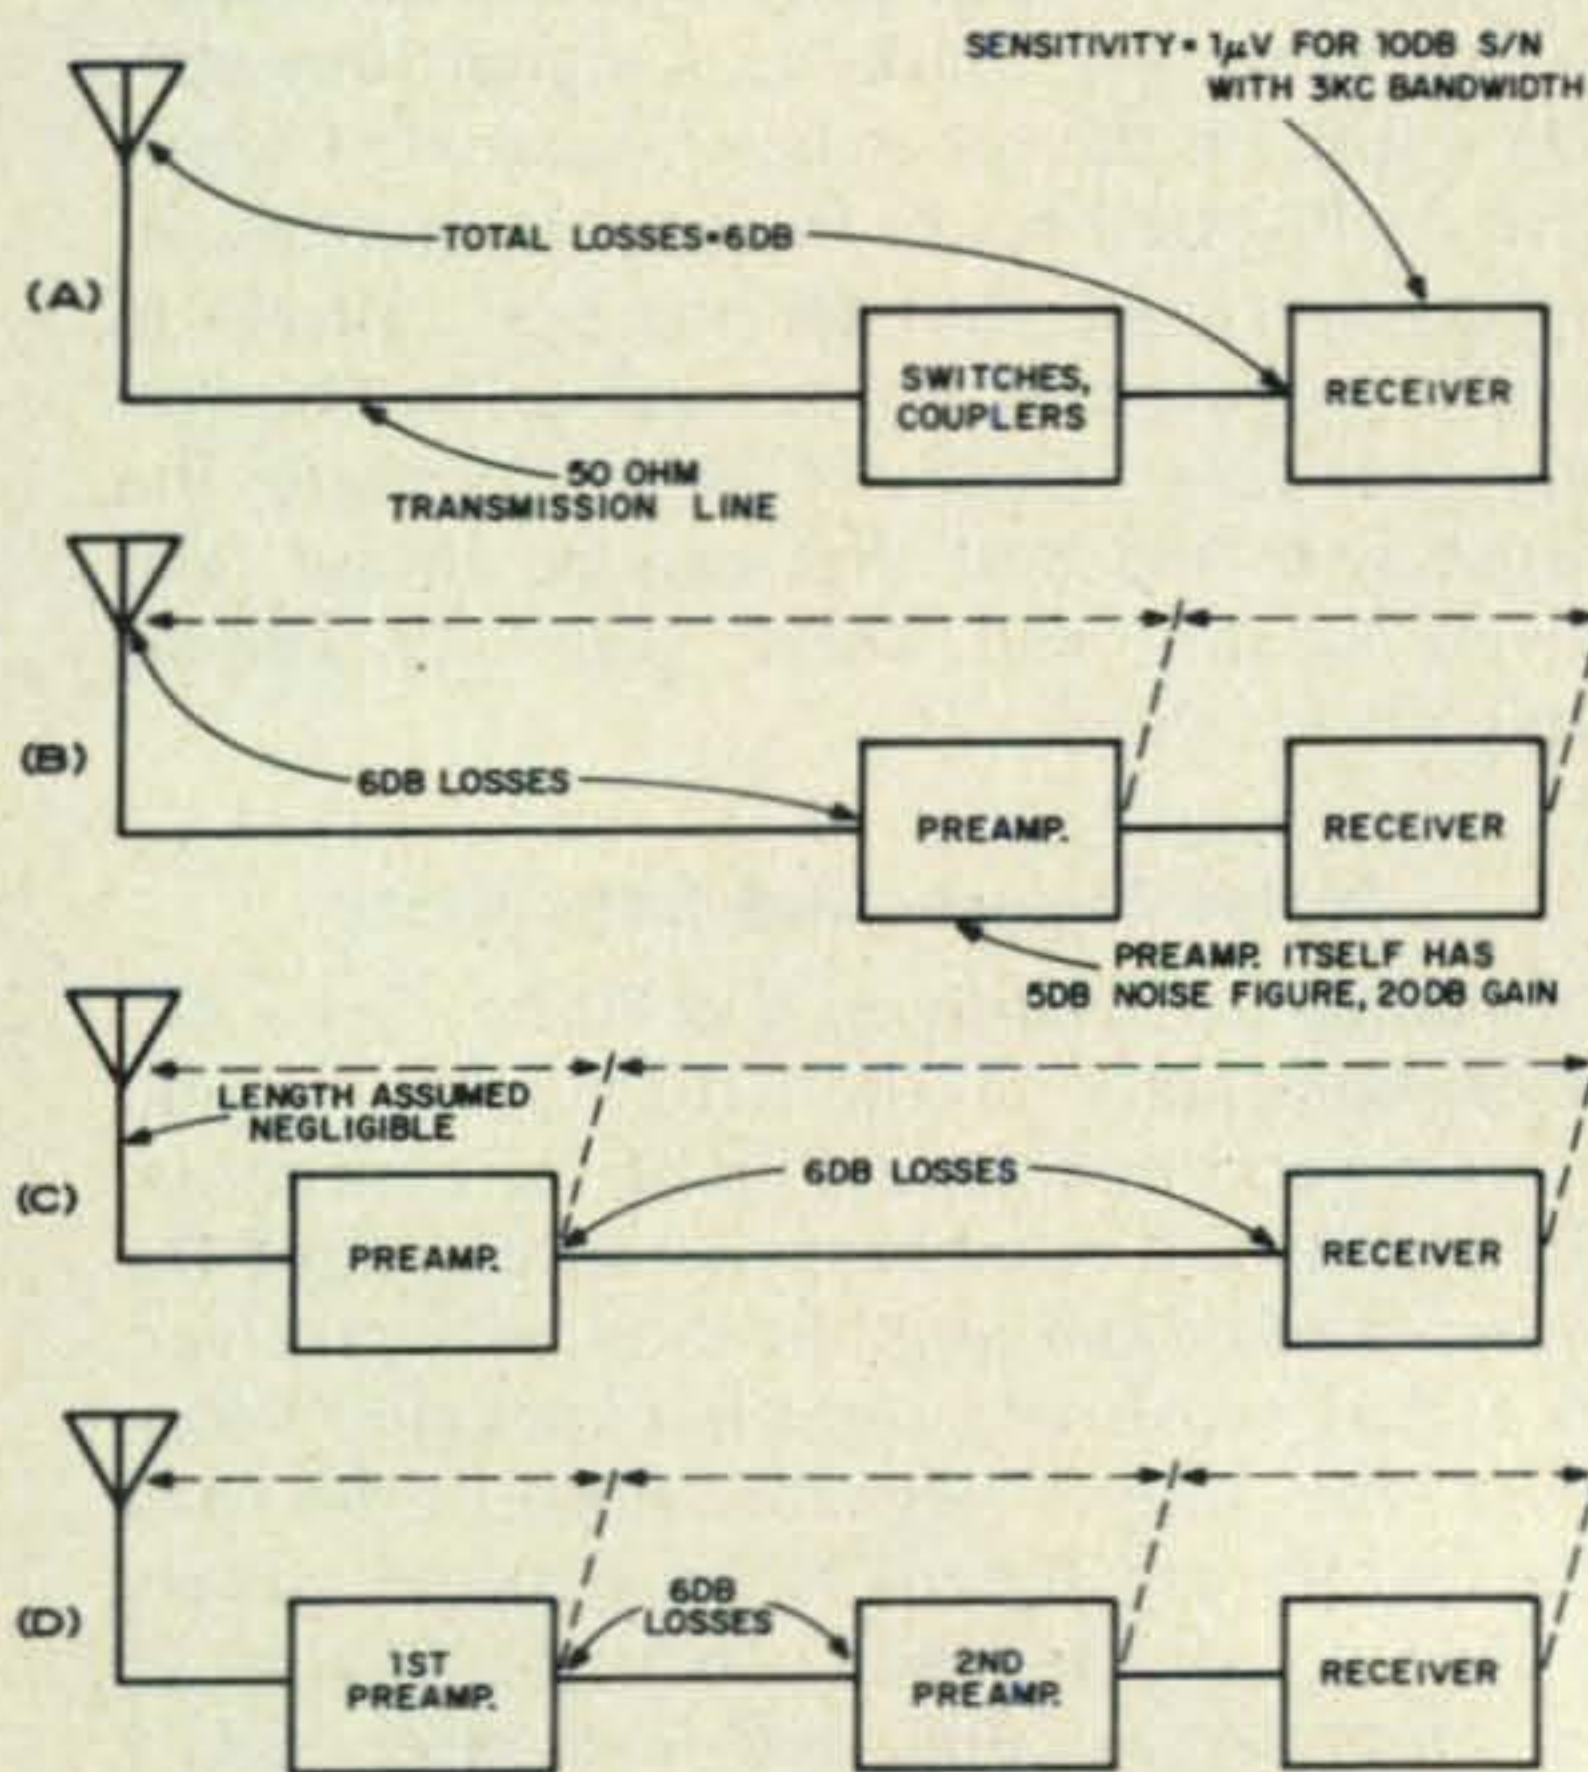
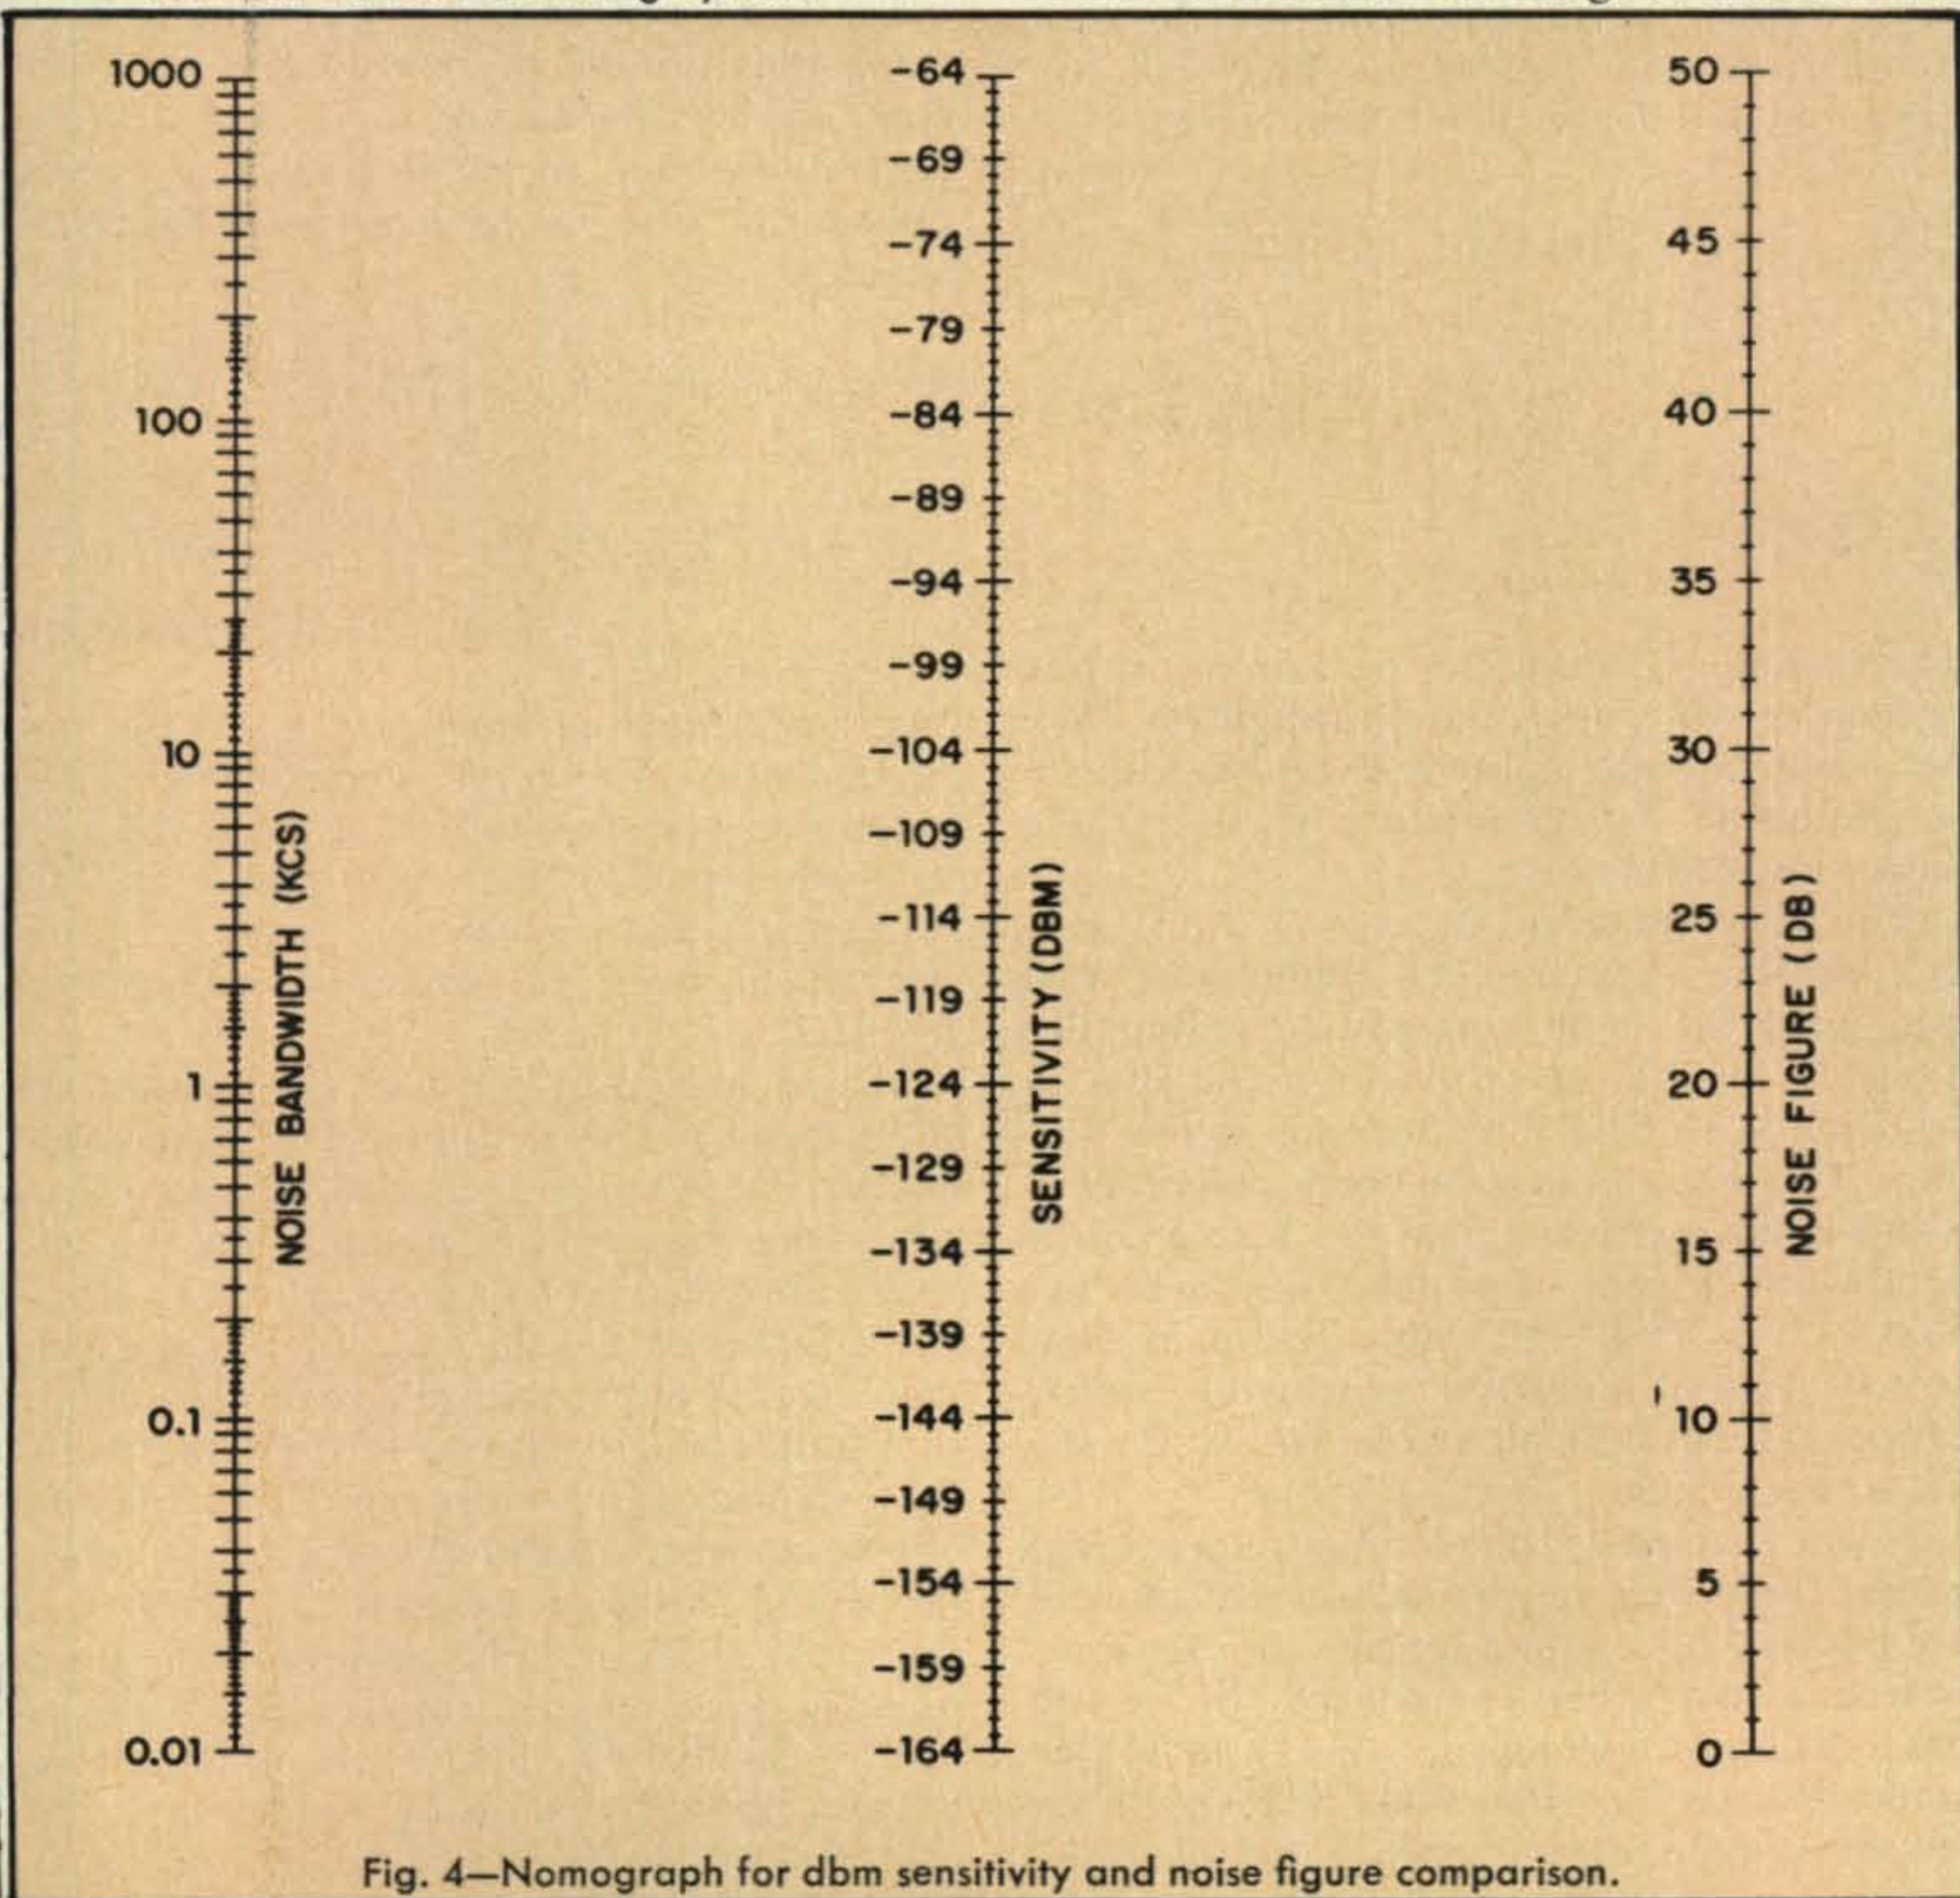

Fig. 1—Various placements of preamplifiers discussed in the text.
Fig. 4—Nomograph for dbm sensitivity and noise figure comparison.
Figure 1(A) is typical of the usual receiver or transceiver installation. The receiver sensitivity shown is typical for many commercially available units. The first step in evaluating the *total* receiving system sensitivity is to sum all the line losses between the receiver and the antenna. This includes the normal transmission line loss for a given length of cable on a specific band as well as the connector, send-receive switch, other switches and measuring and filtering device losses. There is also an additional loss if the transmission line is not operating at unity s.w.r. (which will be the same under receiving conditions if the receiver has a 50 ohm input). This additional loss can be determined from the graph of fig. 2 and should be added to the db sum of all the other losses. The second step is to convert the receiver sensitivity to unity signal-to-
noise ratio output and also to express the sensitivity in dbm. This is necessary because receiver sensitivities are expressed by manufacturers for a multitude of signal-to-noise ratios and the only way to compare them is to reduce or convert them to a common base. From fig. 3, for the receiver sensitivity shown in fig. 1(A), it is seen that the 1 microvolt sensitivity is equal to  $-107$  dbm. Since this sensitivity is for a 10 db signal-to-noise ratio output, it must be improved to 10 db less or  $-117$  dbm for unity signal-to-noise ratio sensitivity. The direct reduction in sensitivity with decrease in signal-to-noise ratio is possible because a receiver is a linear amplifying device. If the receiver sensitivity were stated for 15 db signal-to-noise ratio, for instance,  $-15$  db would be added to the value determined from fig. 3. From fig. 4, then, using the bandwidth stated in fig. 1(A) for the receiver sensitivity value, one can draw a line between 3 kc on the left scale and  $-117$  dbm on the center scale to find the noise figure at 21 db. Such a value is fairly typical of medium grade receivers but not really obvious from just the sensitivity figure.
One idea that may come to mind to correct the relatively poor receiving situation shown in fig. 1(A) is the use of preamplifier at the receiver as shown in fig. 1(B). A fairly good preamplifier, at least for the high-frequency bands, having a noise figure of 5 db and gain of 20 db is used. No change is made in the
Calculating the overall receiver system sensitivity is done by first regarding the portion from the preamplifier back to the antenna the same as the situation shown in fig. 1(A). Thus, the preamplifier noise figure is raised by the line loss to 11 db and its gain reduced by the line loss to 14 db. The noise figure of the original receiver (21 db) remains unchanged. The total noise figure is found from the following formula which relates the individual noise figures of several successive units to an overall figure:
The resultant noise figure (12.5 db) is a considerable improvement although it does not equal the 5 db which the preamplifier alone is capable of producing. The overall sensitivity can be found from fig. 4 as  $-127$  dbm. This assumes that the preamplifier bandwidth is not narrower than the 3 kc receiver bandwidth which, of course, would be the actual case. The  $-127$  dbm figure, if converted into a microvolt sensitivity, would produce about 0.3 microvolts for 10 db signal-to-noise ratio.
Since the preamplifier noise figure is increased by the attenuation of the transmission line between it and the antenna, the logical location to preserve the preamplifier's noise figure would seem to be at the antenna itself as shown in fig. 1(C). In this location the noise figure and the gain of the preamplifier are not degraded by the line loss preceding the unit. The transmission line loss does, however, degrade the basic receiver noise figure, the same as in fig. 1(A). The resultant total noise figure and sensitivity can be calculated using the formula previously given. In this case, considering no line losses added to the preamplifier and the 6 db line losses added only to the original receiver noise figure we have:
The corresponding sensitivity is  $-130$  dbm, or converted into terms comparable to the given receiver sensitivity, 0.2 microvolts for a 10 db signal-to-noise ratio. This resultant noise figure and sensitivity is certainly an improvement over the situation outlined for fig. 1(B).
Figure 1(D) shows the use of two amplifiers, one at the antenna as a preamplifier and another at the receiver or a postamplifier. If possible, the preamplifier should be of better quality than the postamplifier but it is assumed for this example that both amplifiers are of the same quality in order to derive some direct comparison to the use of the amplifier in the foregoing examples. Looking "backwards" from the preamplifier to the antenna, the noise figure and the gain data remain the same as in fig. 1(C). Also looking "backwards" from the postamplifier to the preamplifier, the noise figure and gain data for the postamplifier are the same as that for the preamplifier in fig. 1(B). The noise figure of the receiver remains unchanged. Combining these noise figures into the previously given formula, we have: